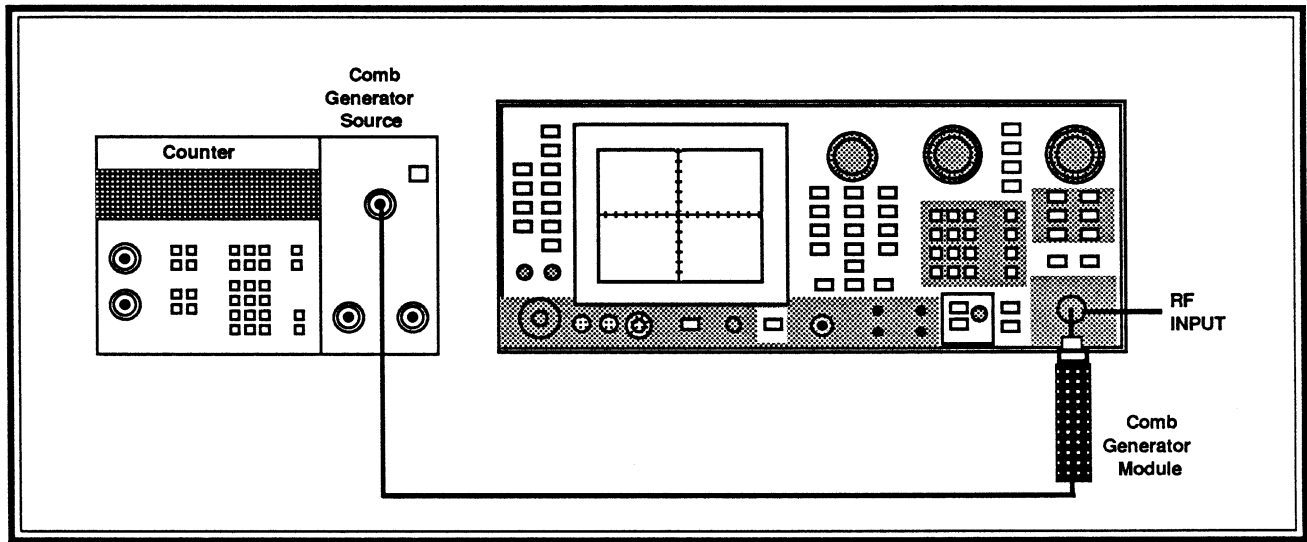

Figure 1. Test equipment setup for checking center frequency accuracy
c. Connect the test equipment as shown in Figure 1.